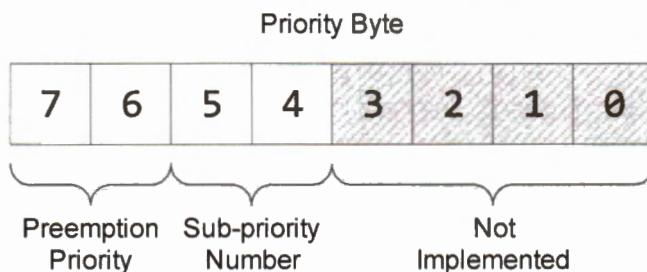

Figure 11-7. Interrupt Priority Byte of STM32L by default
STM32L processors allow five different schemes to split the four-bit priority number. If we use n bits for the preempt priority number, then the sub-priority number has $4 - n$ bits, where $n = 0, 1, 2, 3$, or 4 . By default, two bits are used for the preempt priority number, and two bits are used for the sub-priority number, as shown in Figure 11-7.
- Also, the subroutine shifts the priority left by four bits because the lower four bits of each priority register are not used in STM32L processors (see Figure 11-7).